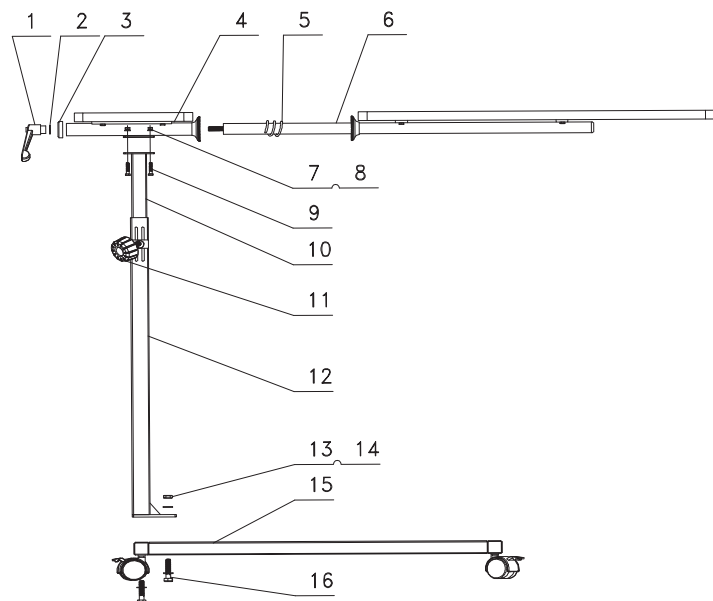

Figure: 1
Step1: Open the package,remove the each components(see Figure 1).